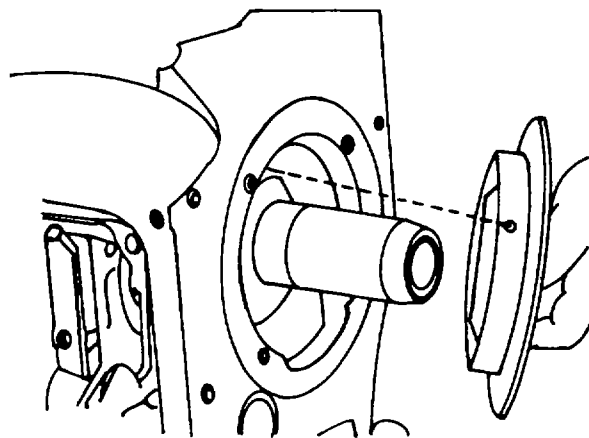

Figure 5-27. Align End Shield Oil Hole
25. Slide the sleeve guide over the end of the crankshaft. Fit a new gasket to the end shield; apply grease to hold it in position. Mount the end shield so that its oil hole is in alignment with the oil hole in the crankcase (figure 5-27) (use sleeve guide of press-in device No.003-0670).